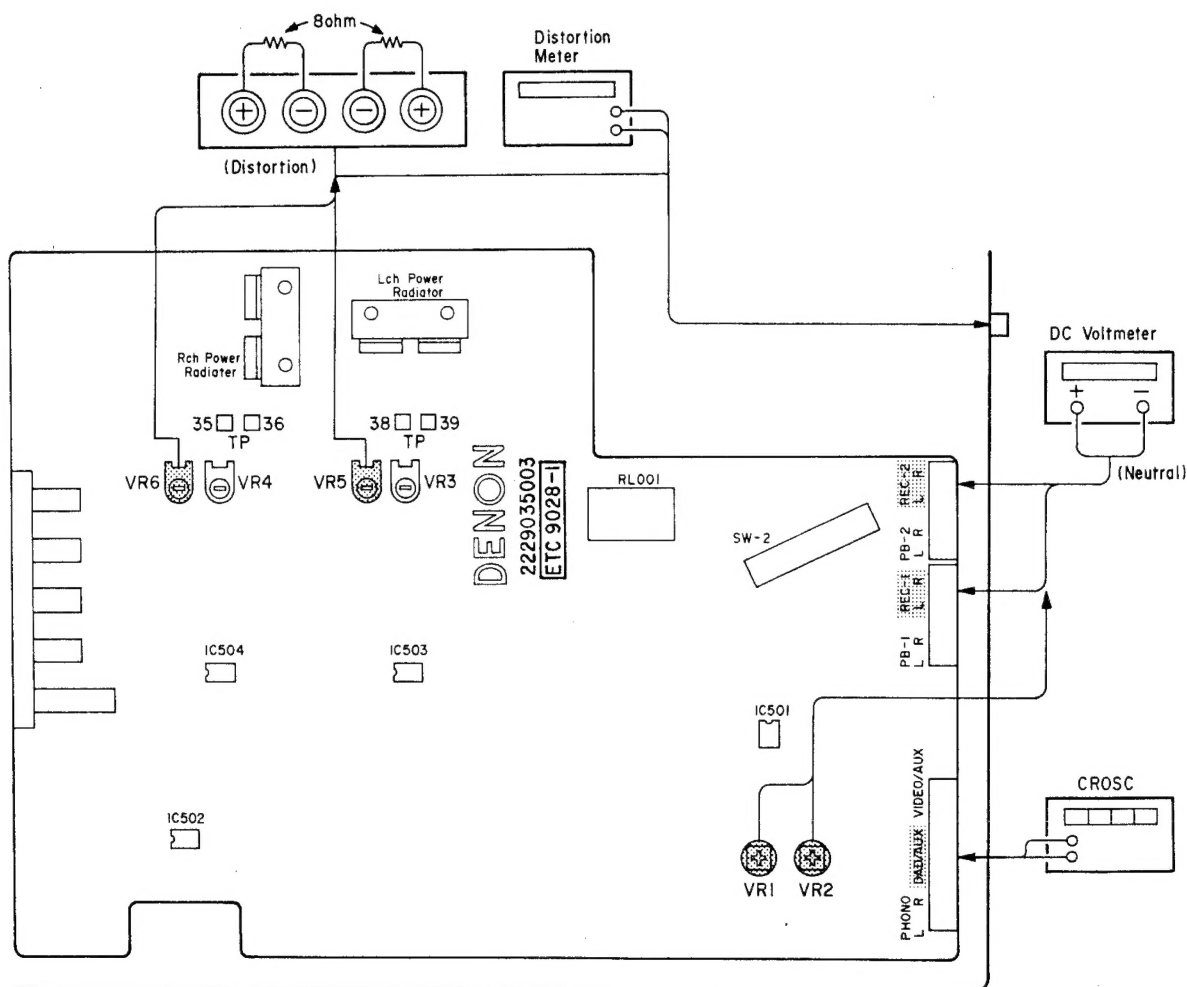

Fig. 8
2. DISTORTION (Fig. 8)
3. NEUTRAL POINT (Fig. 8)